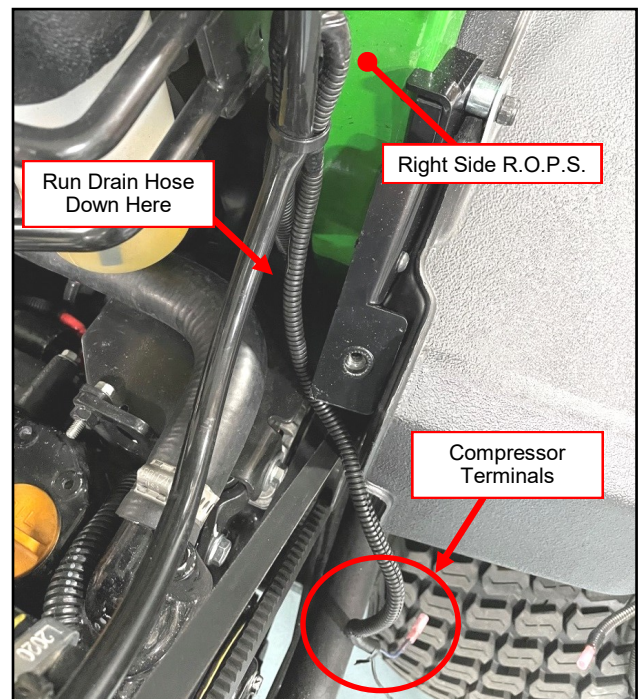

Fig. 2.27a (Routing Drain Hose)
2.27 Run drain hose for AC Unit down in front of the alternator and out the bottom of the vehicle. Keep hose away from moving components and hot engine parts. See Figures 2.27a, b, and c for routing recommendations. Use provided Wire Ties as needed.